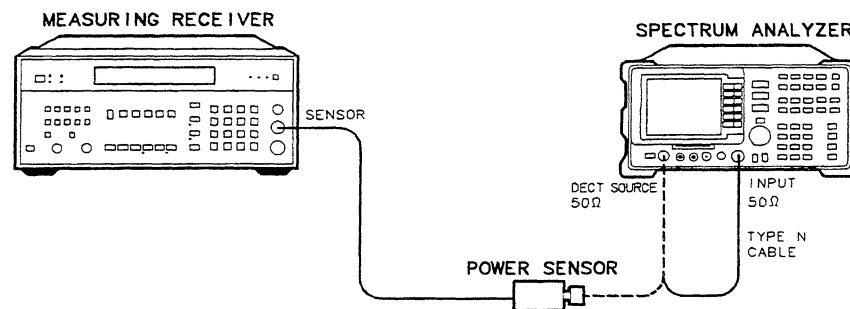

Figure 10-2. BITG Power Level Adjustment Setup
8. Disconnect the cable from the DECT SOURCE 50 Ω connector. Connect the power sensor to the DECT SOURCE 50 Ω connector. See Figure 10-2.